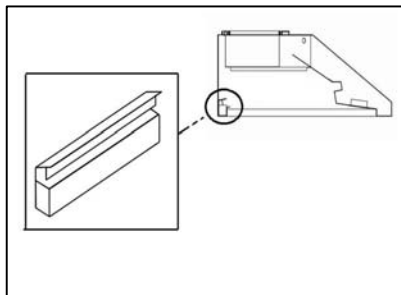

Figure 30
1. Attach oil tunnel. Refer to Figure 30.